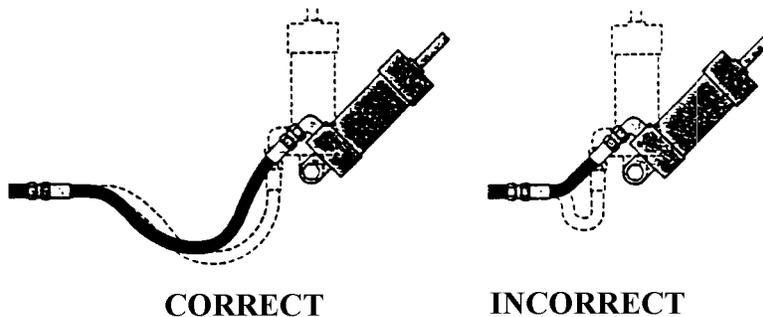

FIGURE 4—MOTION ABSORPTION
5.23 Lengths—Unnecessarily long hose can increase pressure drop and affect system performance. When pressurized, hose that is too short may pull loose from its fittings, or stress the fitting connections, causing premature metallic or seal failures. When establishing hose length, refer to Figures 4, 5, and 6; and use the following practices: